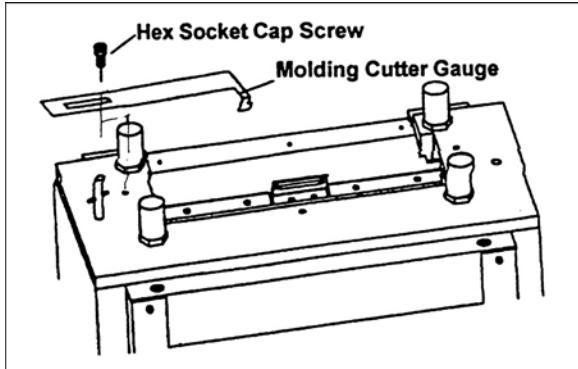

Figure 16
- 8. Install molding cutter gauge with hex socket cap screw and tighten to hold in place. The guide may be attached to either side. See Figure 16.